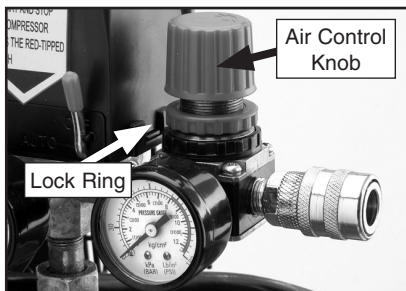

Figure 10. Tool air control knob.
1. Adjust the air control knob, shown in **Figure 10**, to set the PSI that will be delivered to your tool. Turn the knob clockwise to increase the pressure or counterclockwise to decrease the pressure.
2. Rotate the lock ring shown in **Figure 10** against the bottom of the air control knob to prevent changes in the air pressure.